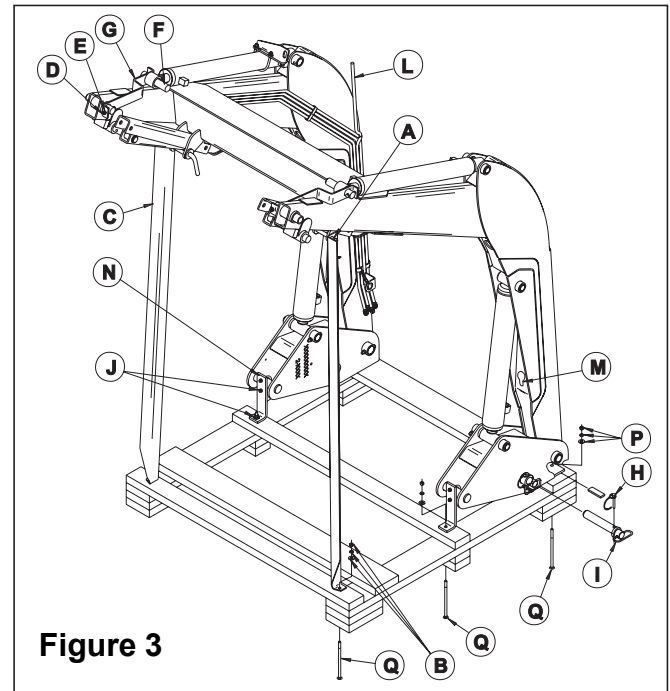

Figure 3
1. Loop chain or sling under each bucket cylinder and hook on loader boom arm (see figure 2). Using overhead hoist to support loader, remove shipping angle braces (C) (figure 3) by temporarily removing linch pins (A) to remove angle braces, then reinstall linch pins which hold parking stands in position.
2. Remove nut and washers (B) from shipping braces (C) and discard braces and hardware.
3. Cut tie straps, remove linch pins (H) and hitch pins (I) (see figure 3) and keep with loader for securing uprights to mid-mounting brackets later.
4. Remove hardware (J) from shipping bracket (N). Discard brackets and hardware. Remove nuts and washers (P) from bolts securing loader to pallet. Raise loader.